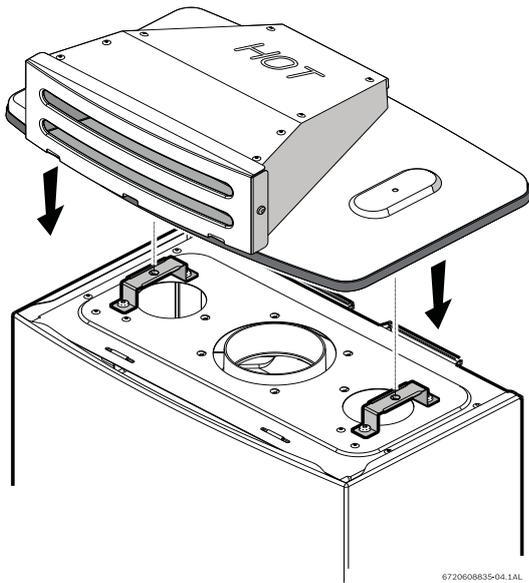

Fig. 6
- ▶ Position the outdoor vent cap on the top of the appliance, as shown in Fig. 6.